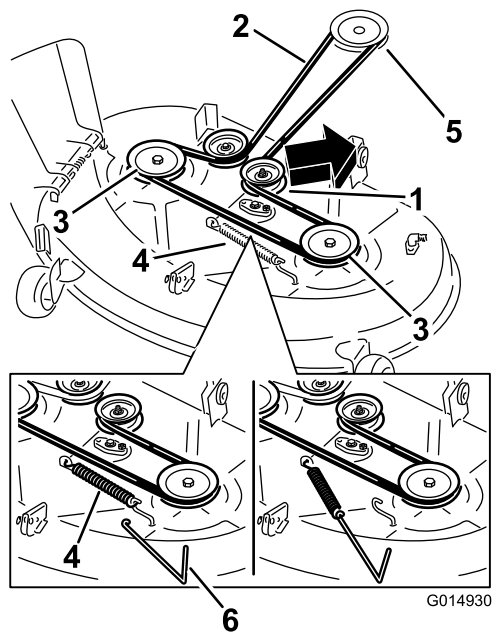

Figure 62
5. Using a spring-removal tool (Toro Part No. 92-5771), remove the idler spring from the deck hook to remove tension on the idler pulley, and roll the belt off the pulleys (Figure 62).
6. Route the new belt around the engine pulley and mower pulleys (Figure 62).
- Using a spring-removal tool, install the idler spring over the deck hook, and place tension on the idler pulley and mower belt (Figure 62).